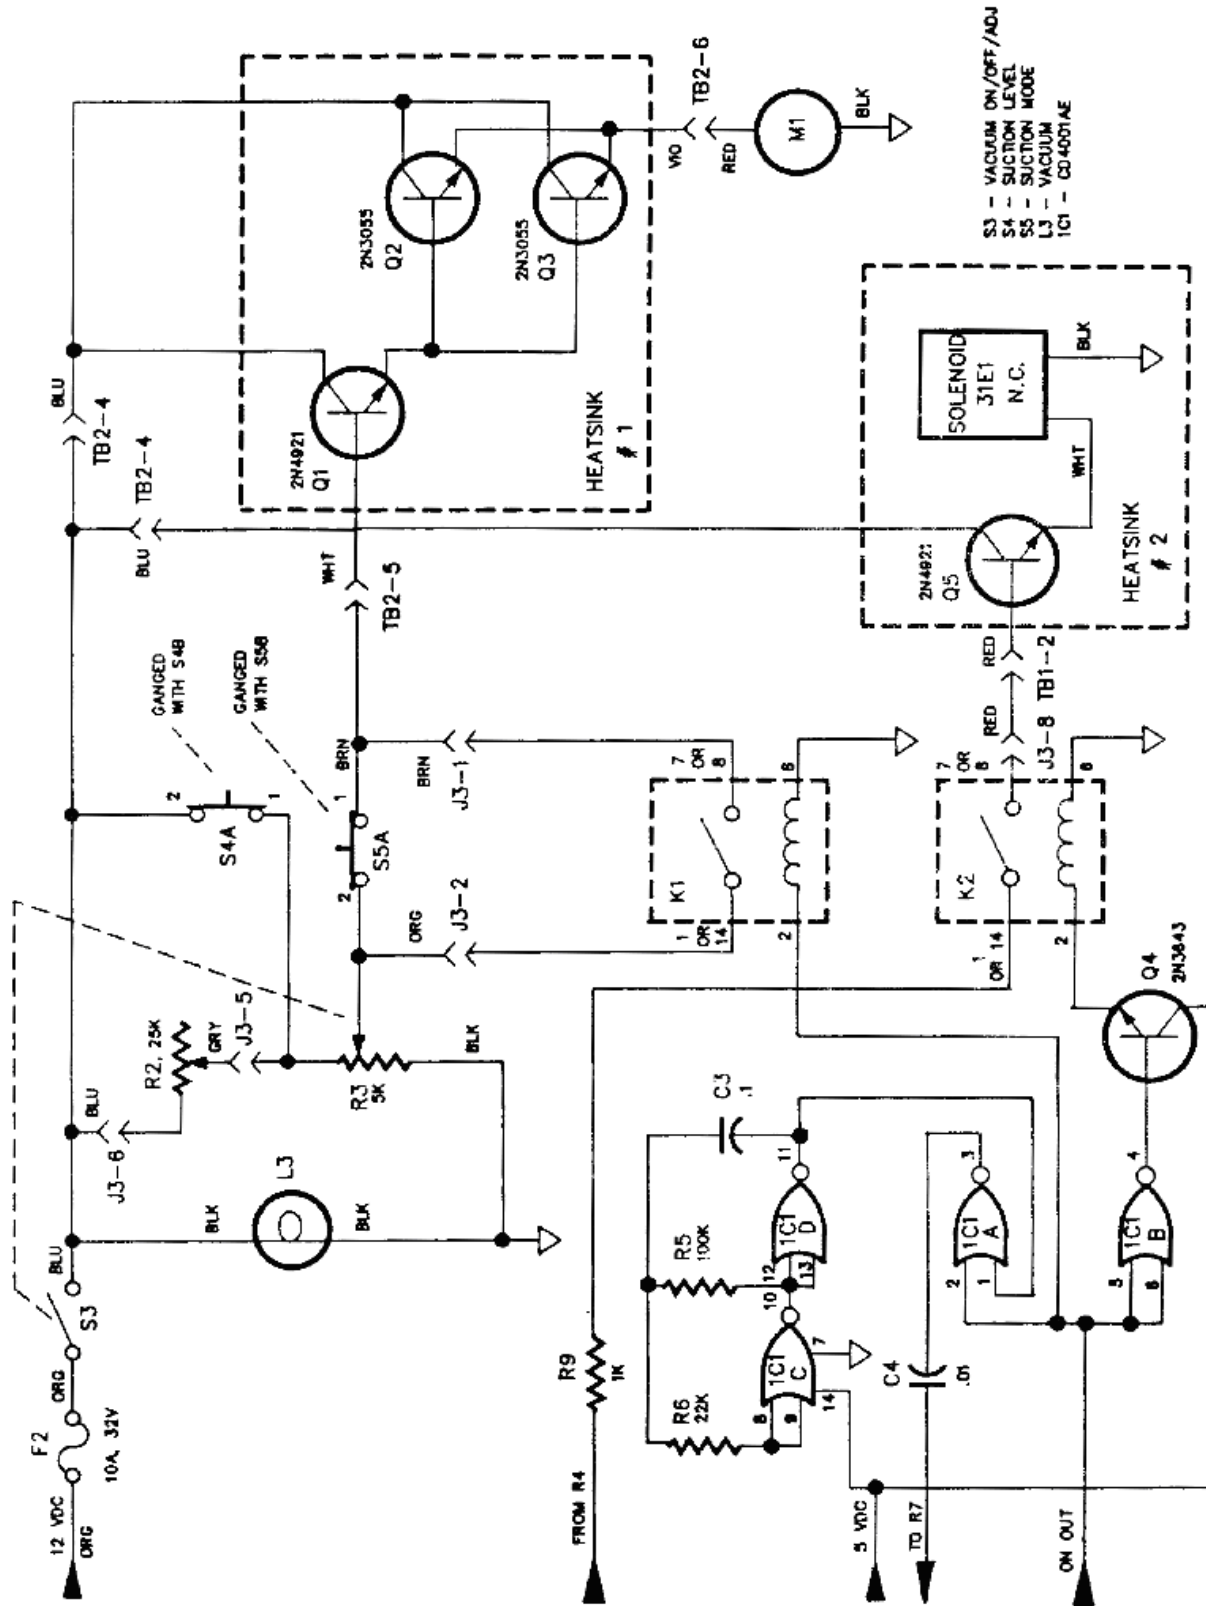

Figure 2-2. Master-clock, control, and regulator circuit schematic.
(2) Suction level and motor speed control circuits. Refer to figure 2-2. Components F2, L3, S3/R3, R2, S4A, S5A, Q1 through 3, and M1 comprise this section. Motor M1 is mechanically coupled to a rotary-vane vacuum pump. The vacuum or airflow generated by this pump is relative to the motor speed driving it. Therefore, the motor speed-control circuit acts as an electronic vacuum regulator. Component S3/R3 is a rotary-switch/potentiometer which provides base drive to a two-stage emitter-follower amplifier, Q1 through Q3.
(5) Clock oscillator circuit. Refer to figure 2-2. The clock oscillator is a 50 Hz, self-starting, square-wave generator consisting of 1C1 pins 8 through 13, R5, R6, and C3. Its purpose is to provide an initiating input to the OFF-time monostable. 1C1 is a quad-2 input NOR (not OR), dual in-line package. All components are mounted to the printed circuit board (PCB).
(6) Type 555 timer operation. These integrated circuits are used as functional monostables for the off-time and on-time circuits. When a negative impulse brings the trigger input (pin 2) below  $1/3$  collector supply voltage ( $V_{cc}$ ), the output (pin 3) goes to a high-logic level ( $V_{cc}$ ). Simultaneously, the voltage across the timing capacitor rises exponentially through the timing resistor and, after a period of time, the comparator input (pins 6 and 7) reaches  $2/3 V_{cc}$ , resetting the internal flip-flop, causing the capacitor to discharge to ground and the output to return to a low-logic level (ground). The timer, in this application, is sometimes 20 percent triggered when intermittent operation is initiated, thus, the unit may cycle once before stabilizing to its correct time period.
(7) Off-time monostable circuit. Refer to figures 2-2 and 2-3. The purpose of this circuit is to control the time period the on-time monostable output remains low. The off-time monostable consists of 1C1 pins 1 through 3, IC2, C4, C6, C9, R7, R11 through 22, R35, and R37. 1C1 pins 1 through 3 comprise a NOR gate of which pin 3 is its output. This output is an inversion of the clock oscillator when the on-time monostable is low. Pin 3 is held in low when the on-time monostable is high. R7 and C4 shape the NOR gate (not OR gate) output into positive and negative impulses, biased at Vcc to prevent mistripping of the monostable and are applied to IC2 pin 2. C6 and R11 through 22 determine the time periods for which the off-time monostable is high. Components C9, R35, and R37 are used to adjust the delay multiplier in the time-period equation as follows:
(9) Relay system. Refer to figure 2-2. The relay system provides two functions; first, it interfaces the on-time monostable with the motor-speed-control circuit and, as a secondary function, dumps the vacuum-collection system to atmospheric pressure during off cycles. The relay system consists of K1, K2, Q4, Q5, R9, and the solenoid. During on-time cycles, relay K1 is closed and provides base bias to Q1 from the R2, R3 series combination. The motor speed is then fixed by the R2, R3 combination during each on cycle unless changed by the operator. Relay K2 is not energized during the "on" cycle, thus allowing the vacuum to exist. During off cycles, K1 is normally open and stops M1. Relay K2 is energized as 1C1 pin 4 goes high and turns Q4 on. When K2 closes, Q5 turns on and energizes the solenoid to a normally open state. When the solenoid opens, the vacuum collection system is dumped to atmospheric pressure and remains so until the next on cycle. Switch S3 must be closed to operate the motor-speed-control circuit and solenoid. Components K1, K2, Q4, and R9 are mounted to the printed circuit board. Component Q5 and the solenoid are mounted to heat sink #2.